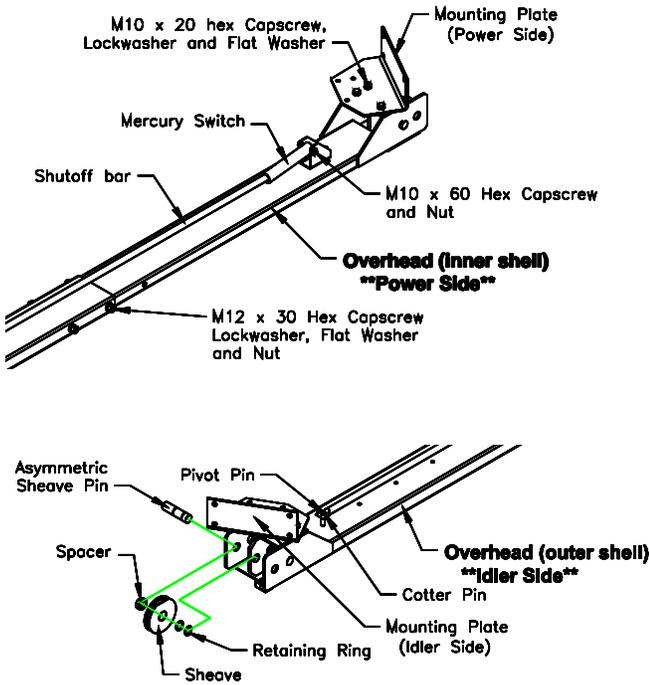

Fig 6 – Asymmetric Overhead Assembly
14) Remove the pre-assembled Symmetric Sheave Pin, Sheave and Spacers. Re-assemble the Sheaves, Spacers using the Asymmetric Sheave Pins and Snap rings provided. The Asymmetric Sheave Pin has 2 Snap Ring grooves; the end with the Snap Ring groove nearest should be inserted first. Refer to Figs 6 and 7.